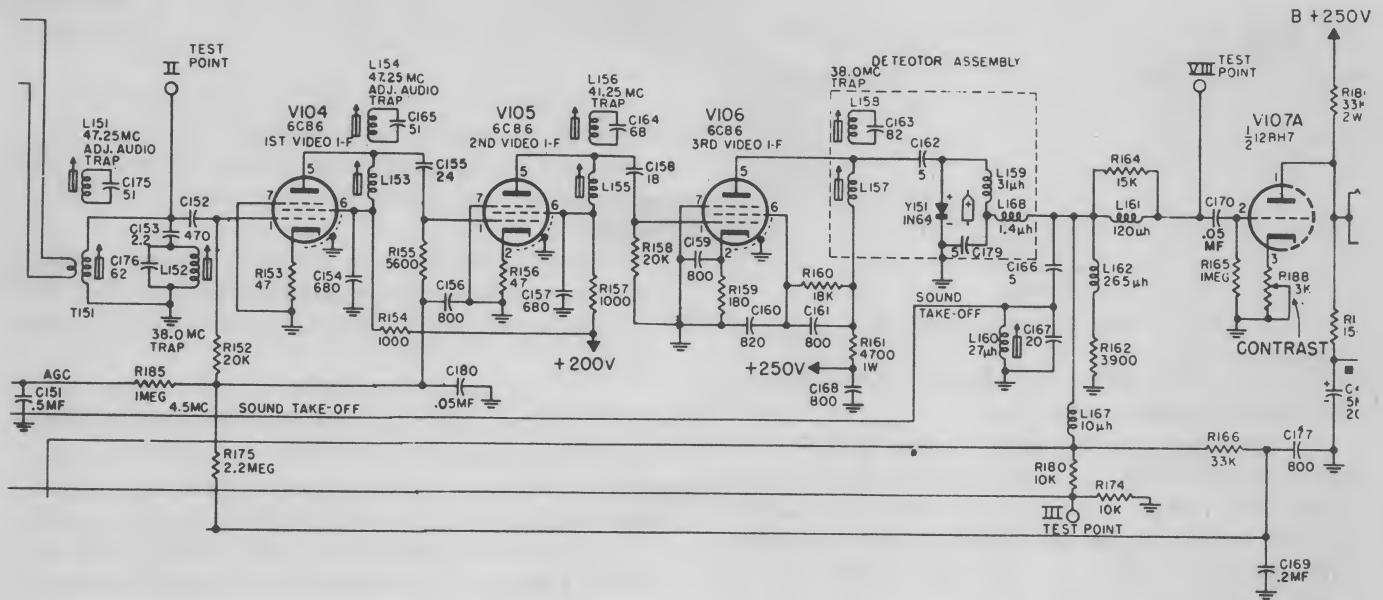

Fig. 6-1. Video i-f's and detector: GE Stratopower chassis.
a. *Stagger-Tuned Video I-F's and Detector.* Figure 6-1 is the schematic diagram of the pix i-f and detector circuit used in the GE Model 21T1 chassis. This is typical of circuits employing stagger-tuning for the i-f's. Other receivers using similarly coupled circuits are CBS-Columbia Model 1027, and Raytheon Model 17T1.